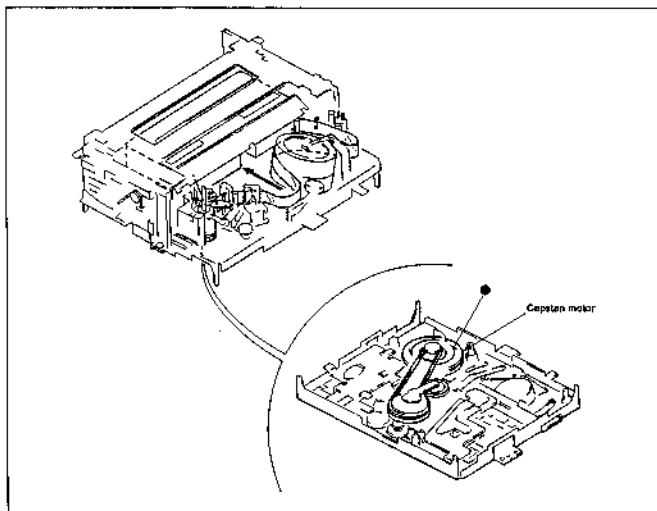

Fig 1-3
**Note:** That tape is not caught at pinch roller. (Fig. 1-3)